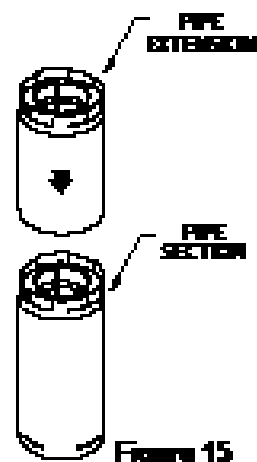

Figure 15
(1) If exact lengths or distances must be met between Elbow offsets or elsewhere, use the Pipe Extensions to adjust onto standard Pipe Sections (Fig. 15).